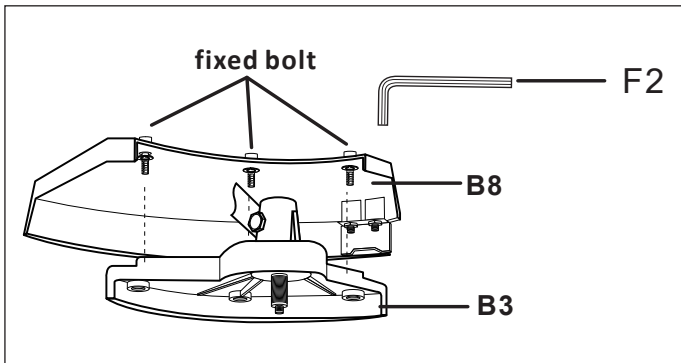

Fig. 4d
g). If you intend to use the product as grass trimmer additionally attach the trimming guard (B8). Fix the trimming guard (B8) and with three fixed bolts by using the hex key 5 mm (F2) (See Fig. 4d). Then proceed as per “Grass trimmer assembly” below.